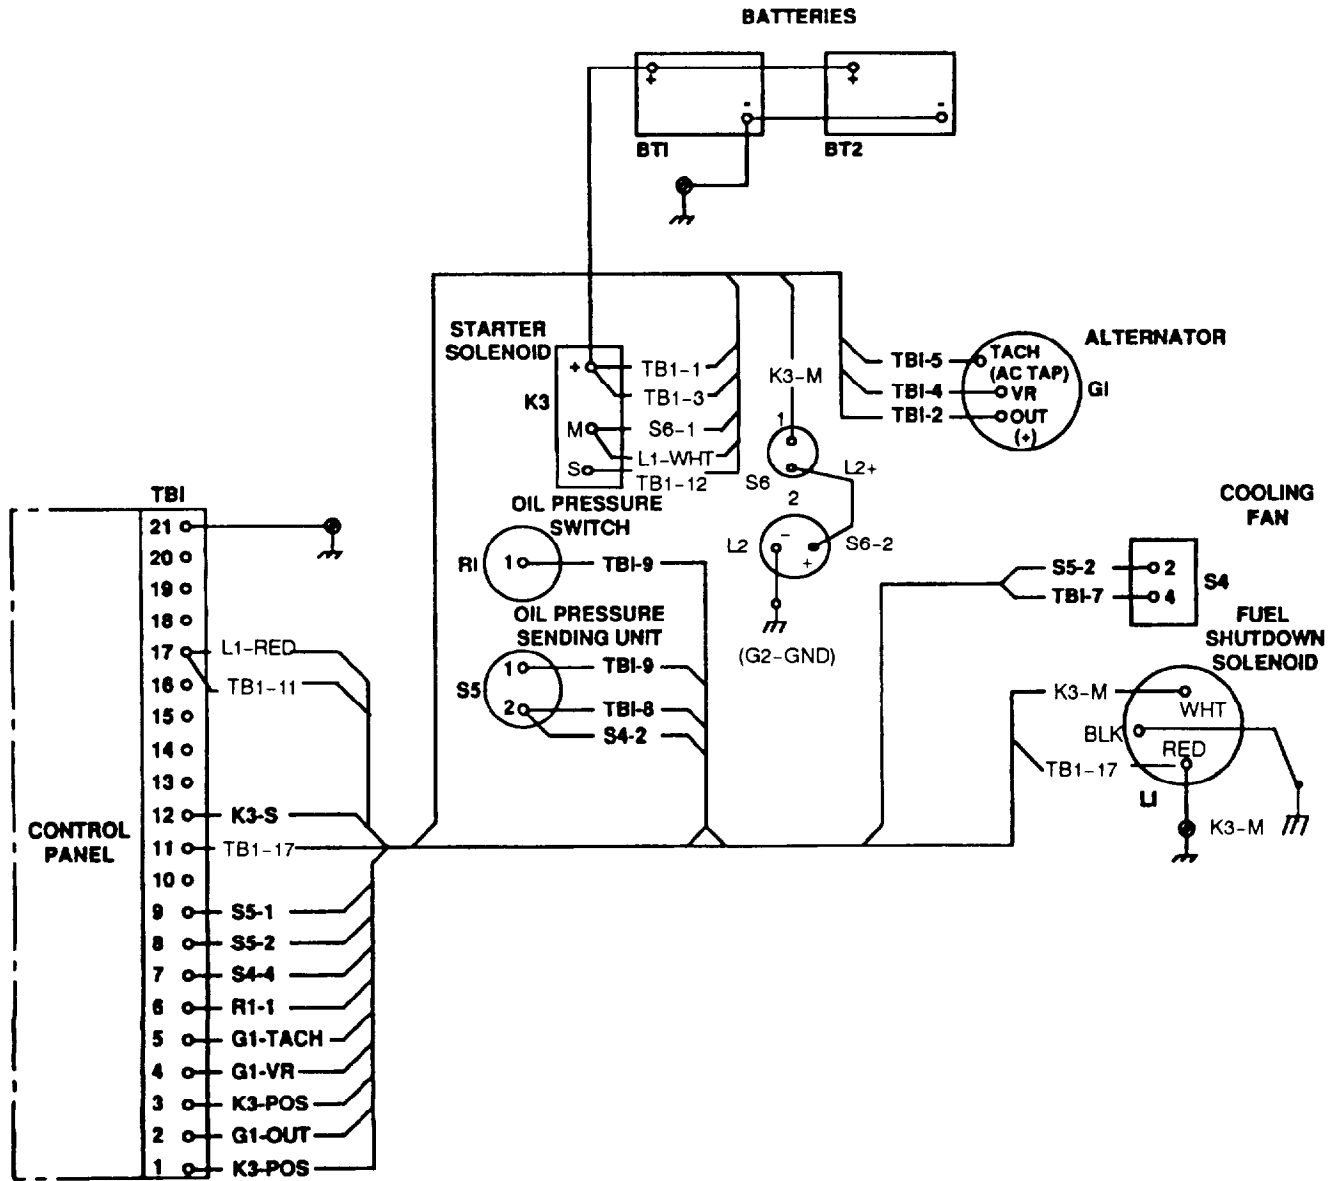

Figure 4-39. Wiring Harness Testing (Sheet 2 of 2) (Model 350 PAWN).
- a. Remove screws (figure 4-39 sheet 1, 1), lockwashers (2) and flatwashers(3) that secure control panel cover (4) to control panel.
- b. Remove control panel cover (4).
- c. Tag and disconnect wires from terminal (5) as necessary.
- d. Using multimeter, check continuity of wires using figure 4-39 sheet 2 as a guide.
- g. Secure cover (4) to control panel with flatwashers (3), lockwashers (2) and screws (1).
■ Figure 4-39. Wiring Harness Testing (Sheet 1 of 2) (Model 350 PAWN).